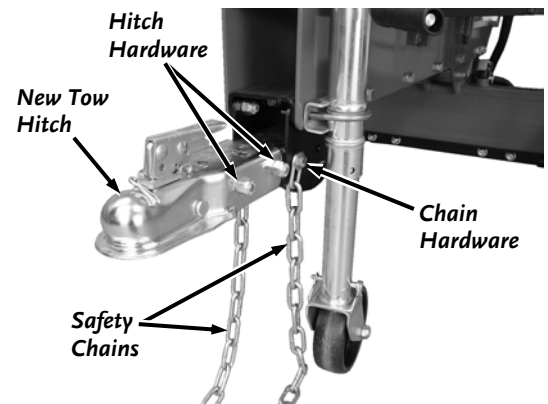

Figure 37
13. Attach the new Tow Hitch to the Frame with the two 1/2-13 x 4" Bolts and Locknuts using two 3/4" Wrenches (**Figure 37**).